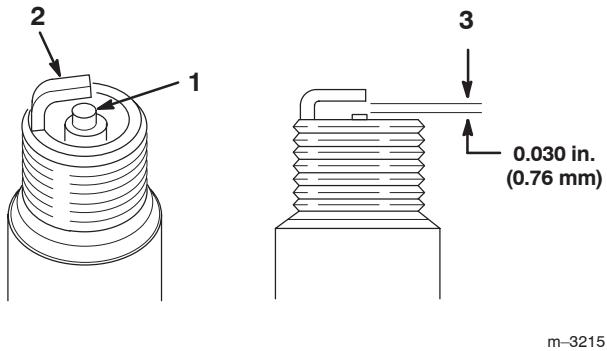

Figure 27
1. Look at the center of the spark plugs (Fig. 27). If you see light brown or gray on the insulator, the engine is operating properly. A black coating on the insulator usually means the air cleaner is dirty.
2. Check the gap between the center and side electrodes (Fig. 27).
3. Bend the side electrode (Fig. 27) if the gap is not correct.